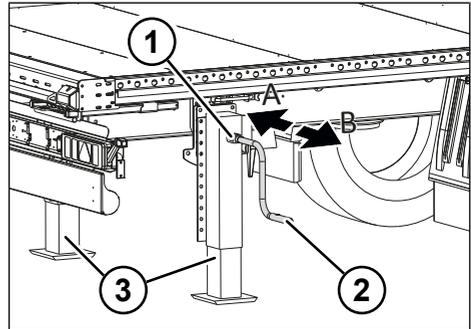

Fig. 5-6: Load speed and high speed of the rear brace
- ▶ Switch on high speed by pulling out the hand crank (see "Fig. 5-6: Load speed and high speed of the rear brace", pg. 25).
- ▶ Switch on load speed by pushing in the hand crank (see "Fig. 5-6: Load speed and high speed of the rear brace", pg. 25).
- ▶ Set to load speed by pushing in the hand crank (see "Fig. 5-6: Load speed and high speed of the rear brace", pg. 25).
- ▶ Set to high speed by pulling out the hand crank (see "Fig. 5-6: Load speed and high speed of the rear brace", pg. 25).